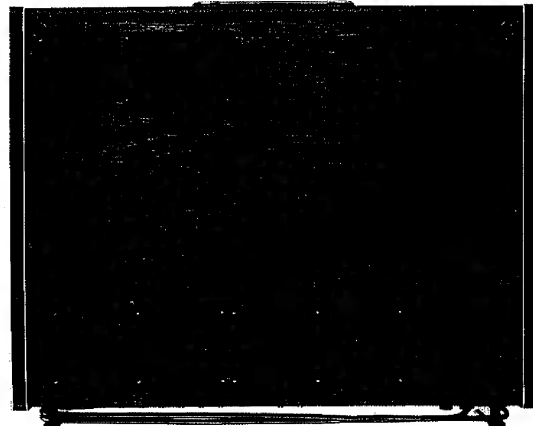

Figure 1 (EM-300B)
2. Remove the 4 phillips head screws that secure the transformer compartment access cover, and set the cover aside. (Refer to Figure 1.)